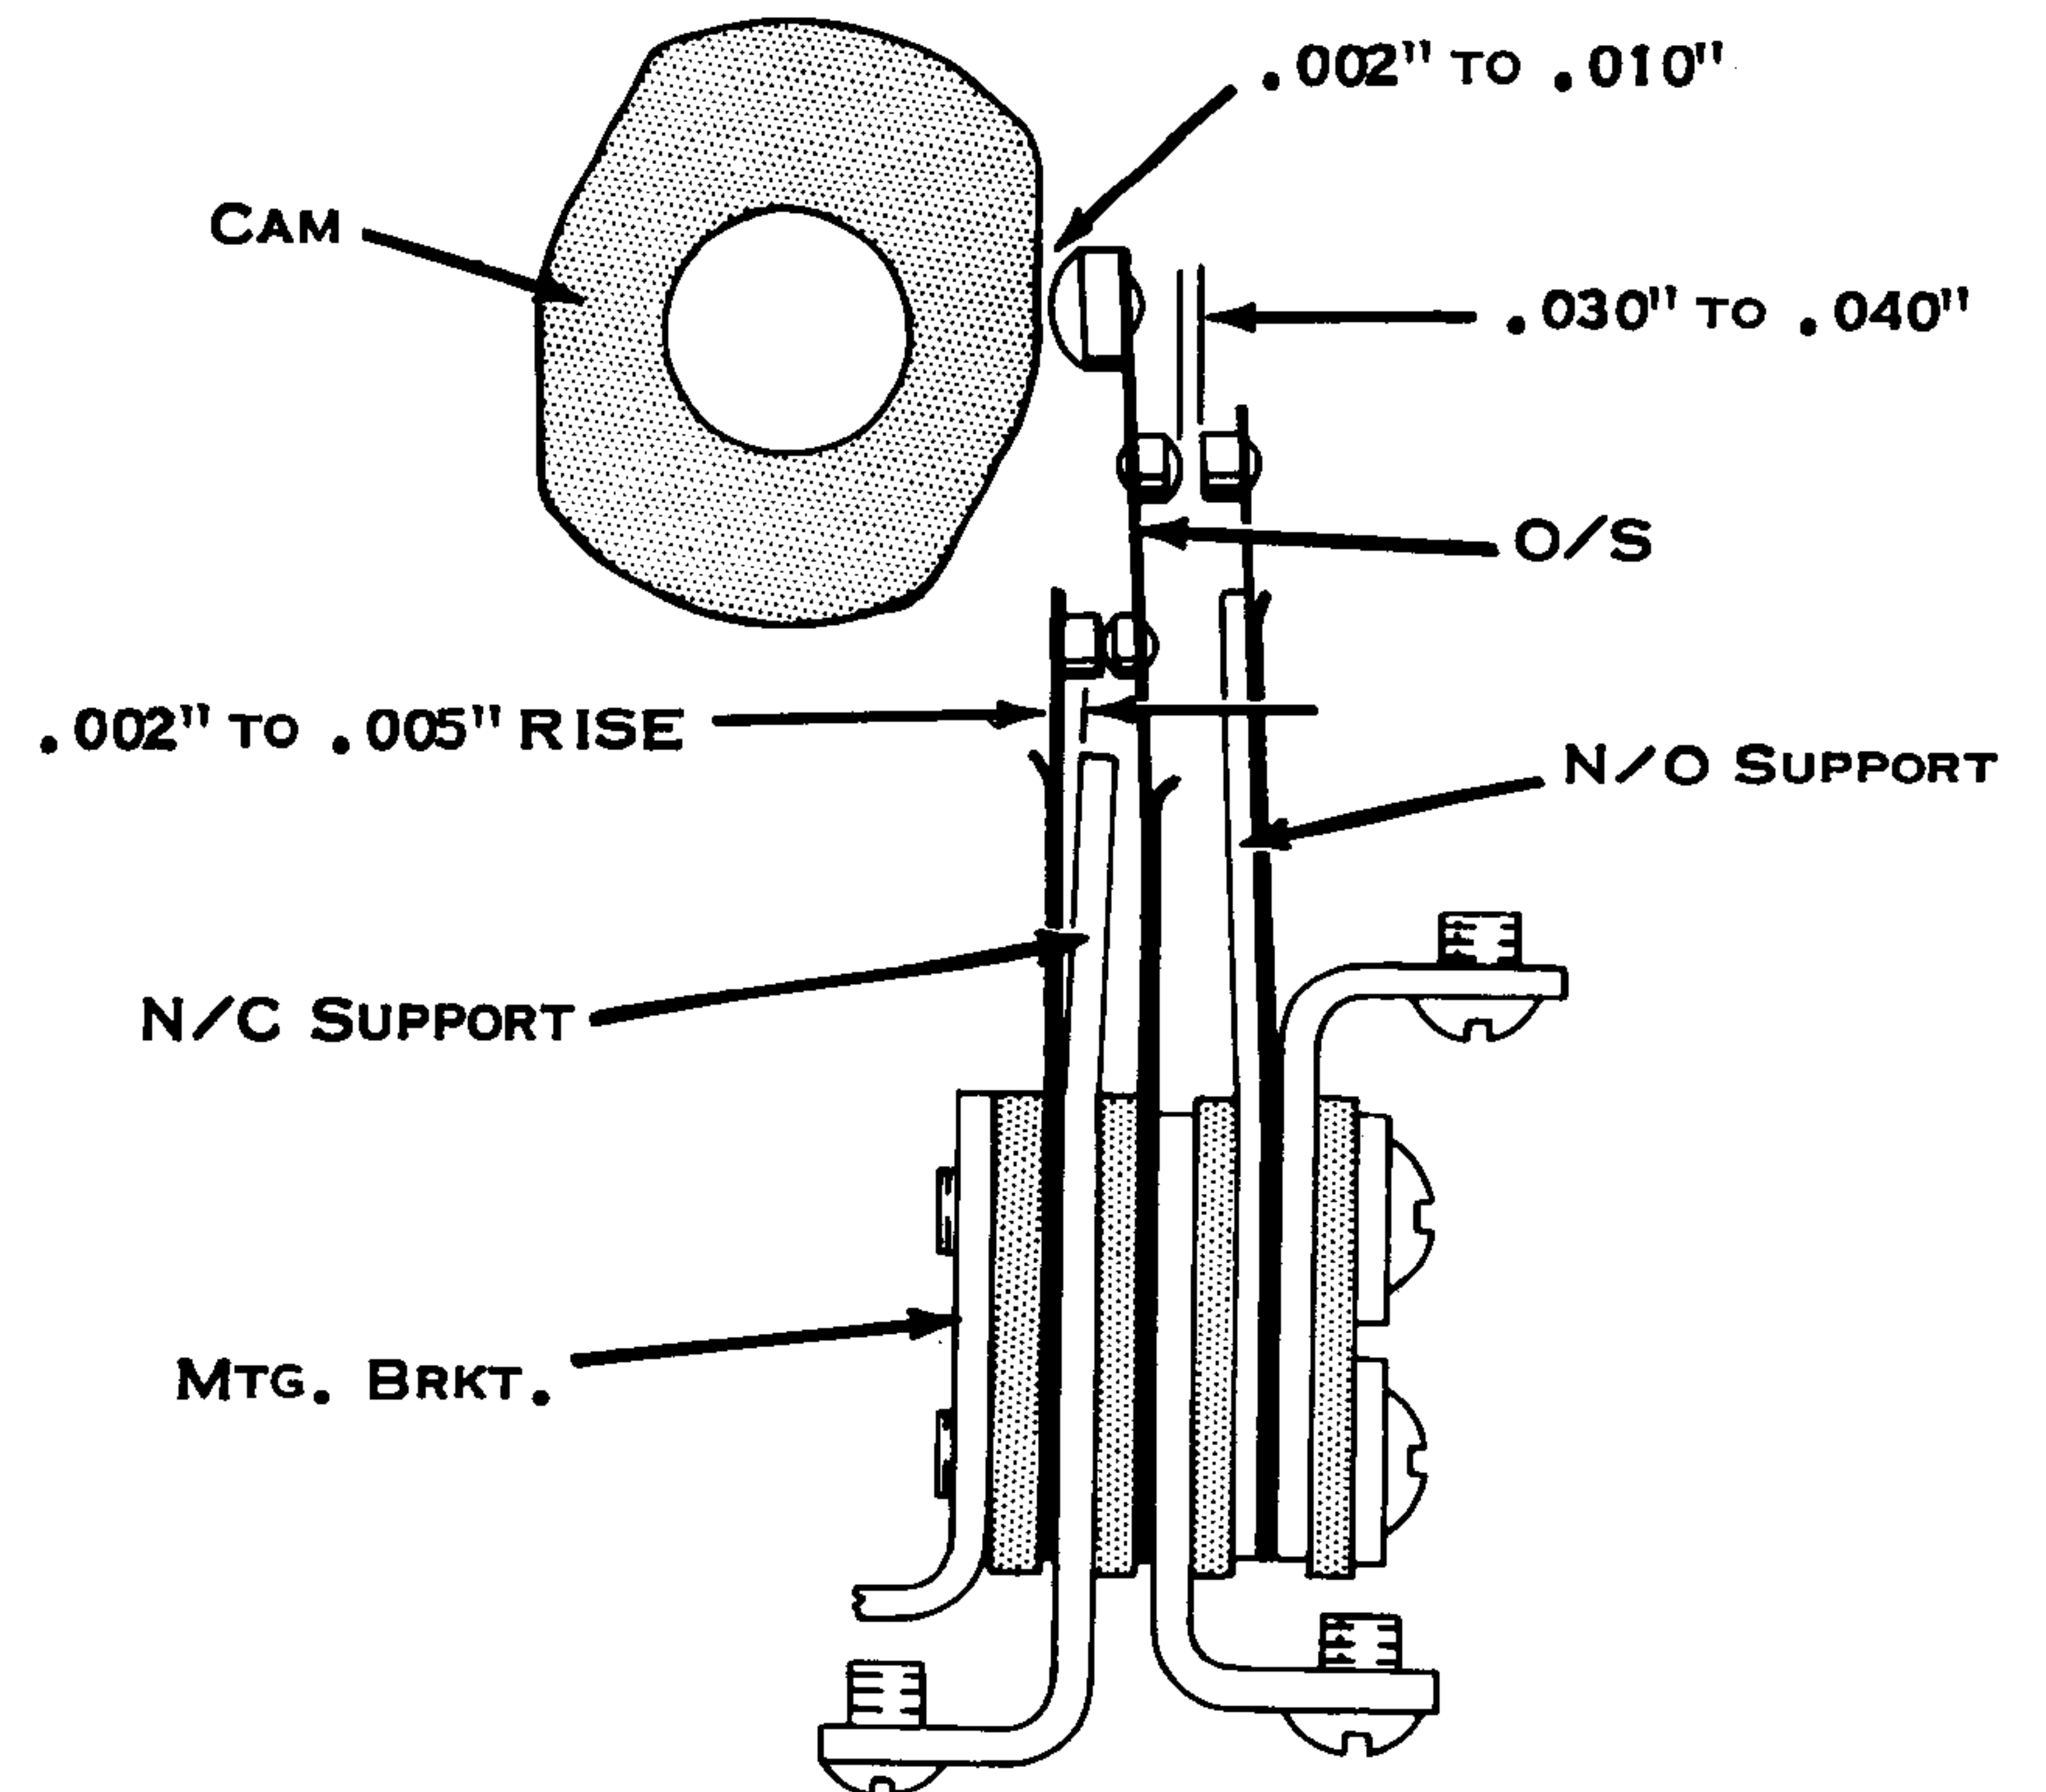

Figure 35. Print Feedback Contacts
- Form the N/C supports so that the O/S's lift the N/C contacts .002" to .005" from the N/C supports (Fig. 35).
- Form the N/O supports for .030" to .040" air gap between the O/S's and N/O contacts (Fig. 35).
- Position the contact mounting bracket so that the O/S's clear the cam (at the low point) .002" to .010" (Fig. 35).